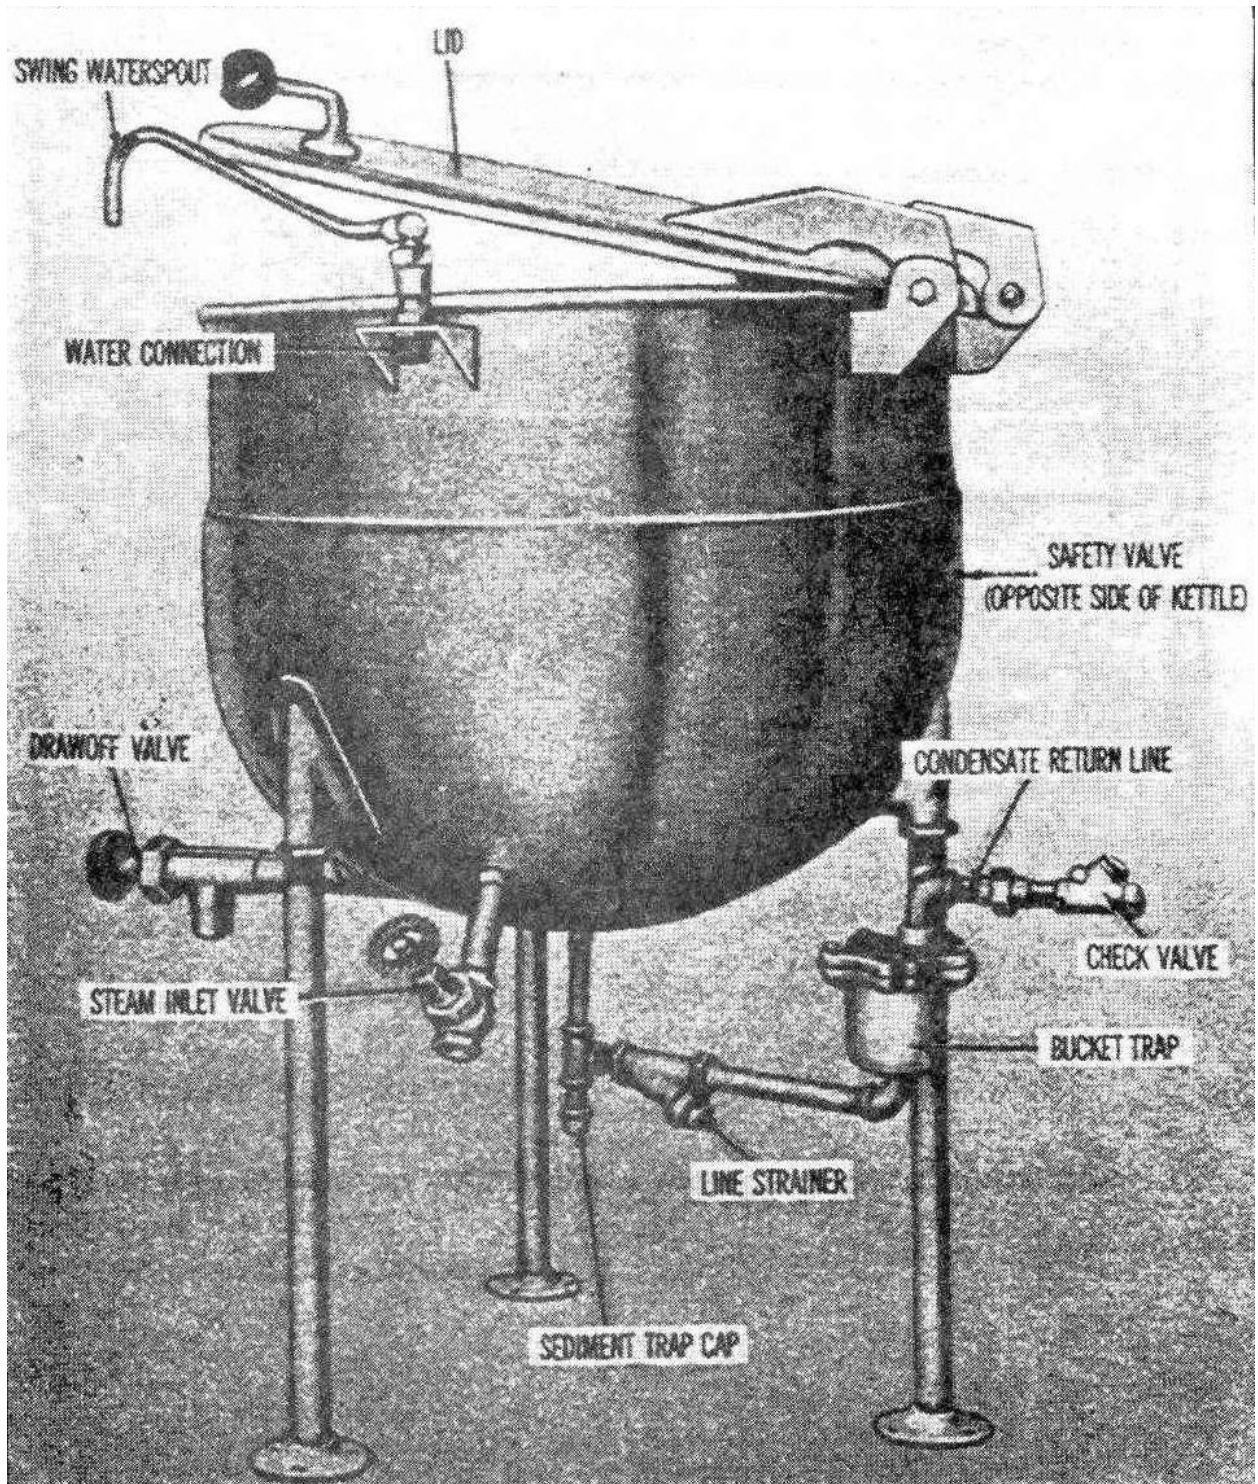
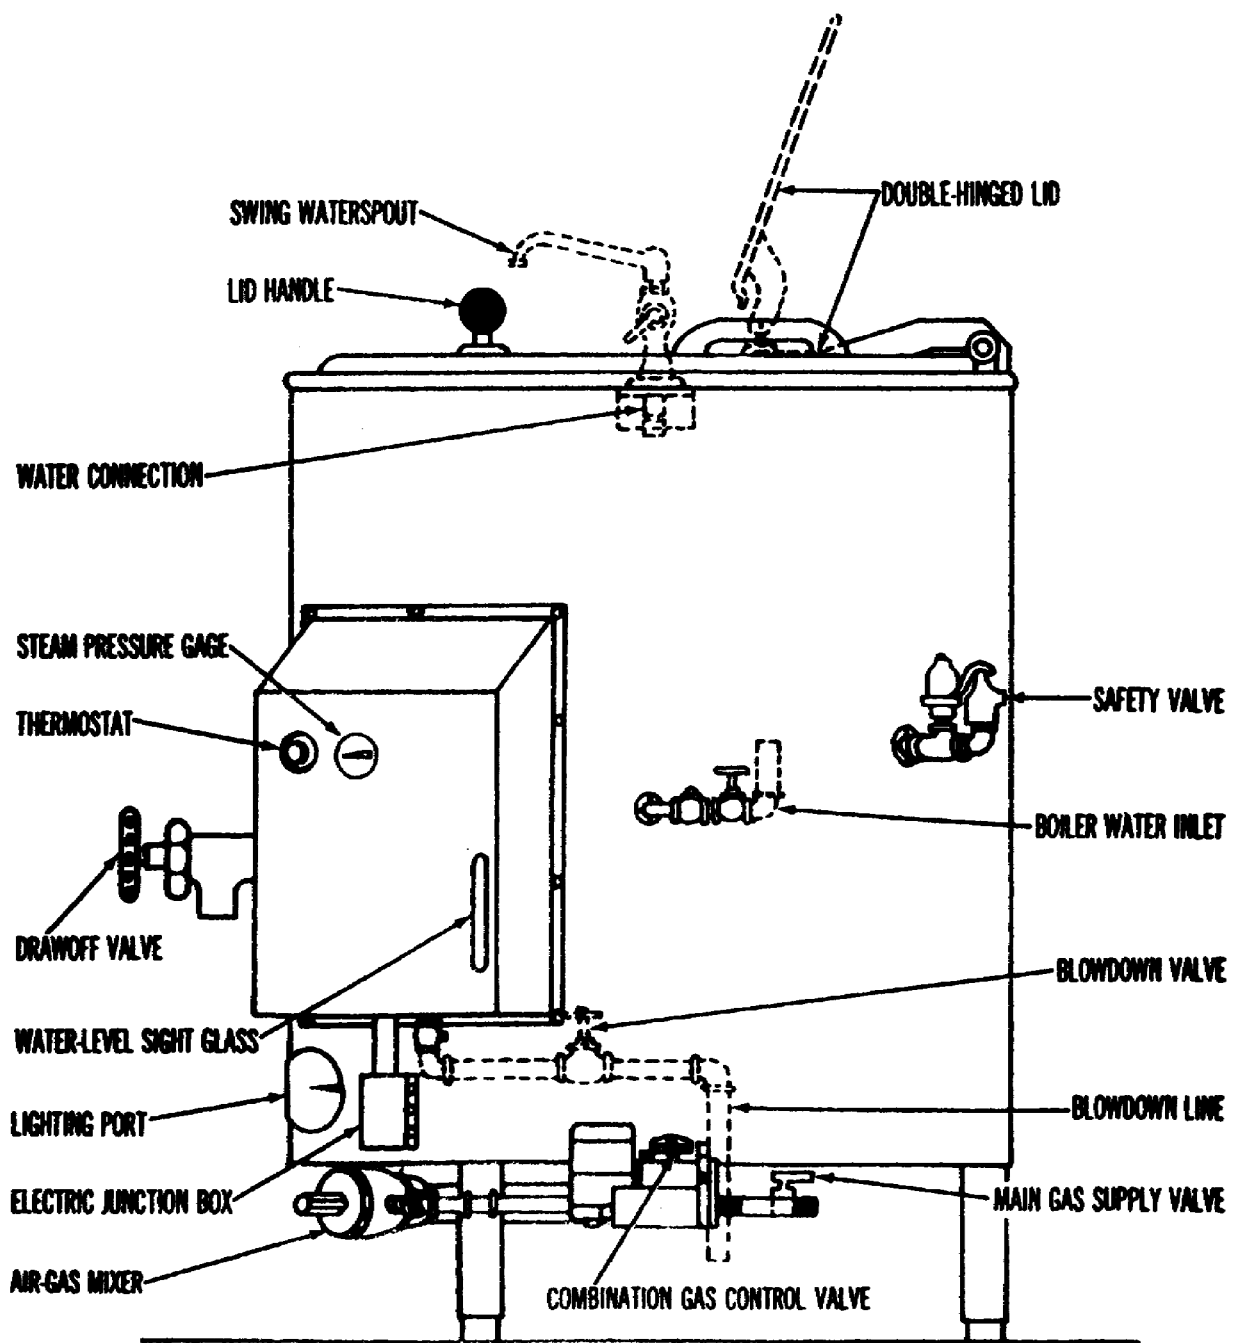

Figure 15. Direct-connected steam-jacketed kettle.
Figure 16. Self-contained gas-fired kettle.
15. **STEAM-JACKETED KETTLE.** This is a 20-, 40-, or 60-gallon kettle with a steam jacket. The heat of the steam cooks the contents of the kettle bowl. The steam-jacketed kettle has a hinged lid, three legs, and connections for attaching steam and water lines. It has a safety valve, set at the factory to blow open at a specific pressure, a drawoff line and valve which allow liquid contents to be drained from the kettle, a strainer which fits into the bottom of the bowl to keep solids from entering the drawoff line and valve, and a swing waterspout through which the kettle can be filled directly. Steam-jacketed kettles are classified as either direct-connected or self-contained. The direct-connected kettle (fig. 15) receives steam from a main steam line through its steam supply valve. A bucket trap captures condensed steam and forces it out through a condensate return valve. The exact pressure that will open the safety valve varies for different makes and models of steam-jacketed kettles. Military specifications allow the maximum pressure to range from 25 to 40 pounds per square inch (psi). The self-contained steam-jacketed kettle (fig. 16) generates its own steam from a boiler heated by gas or electricity. Kettles of this type are used when steam cannot be obtained from main steam lines. The self-contained kettle has the same basic parts and valves as the direct-connected type; in addition, it has the fuel supply lines, valves, switches, and burners necessary to operate its boiler.